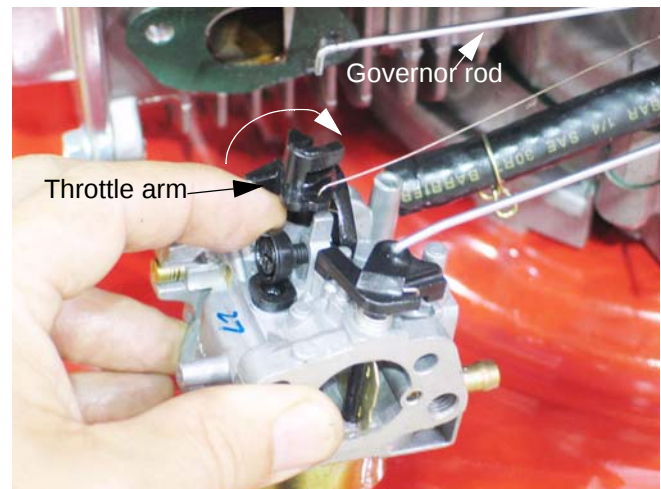

Figure 8.18
8.18. Rotate the throttle arm until it meets the idle speed screw, then pivot the carburetor slightly to disengage the 90 degree bend at the end of the governor rod. See Figure 8.18.